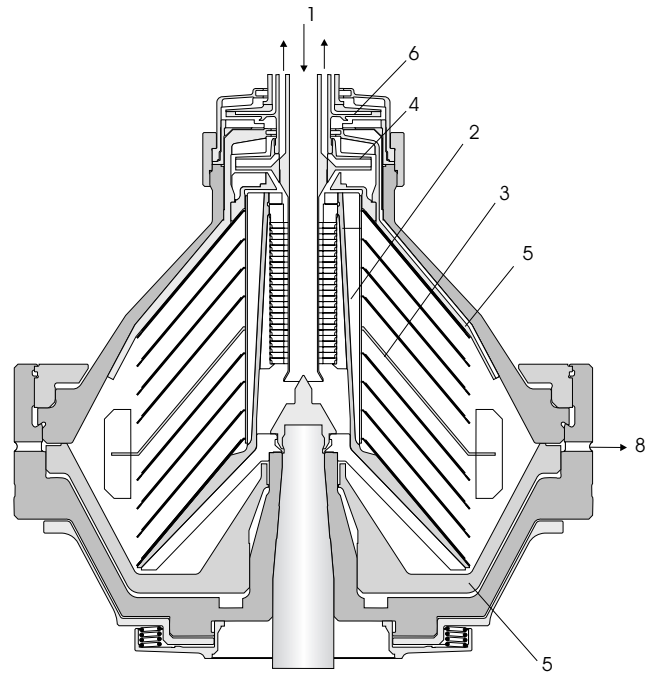

Fig. 2 Typical bowl for a solids-ejecting centrifuge for purification. The details illustrated do not necessarily correspond to the centrifuge described.
Separation takes place inside a rotating bowl. The feed is introduced to the bowl (fig 2) from the top via a stationary inlet pipe (1) and accelerated in the distributor (2) before entering the disc stack (3). The Optiflow™ inlet device in the distributor ensures smooth acceleration of the feed liquid. The separation of the two liquid phases and the solids takes place between the discs. The oil phase moves towards the centre and is discharged via a stationary paring disc (4). The water droplets separated from the feed coalesce at a cylindrical oil/water interface, and the water phase leaves the bowl over the top disc (5) and is taken out by another paring disc (6). The diameter of a gravity disc, forming the inlet to the paring disc chamber, determines the position of the oil/water interface in the bowl and has to be selected according to the density of the light phase. Before oil is fed into the bowl, water is added to form a liquid seal around the periphery of the top disc. The heavy solids are collected at the periphery and ejected from the bowl intermittently at full operating speed. This discharge is achieved by a hydraulic system below the separation space. At preset intervals, this system forces the sliding bowl bottom (7) to drop down, thus opening the solids ports (8) at the periphery. Before discharge, water is added to displace the oil in order to minimize the loss of oil. After discharge, a new water seal is established in the bowl.